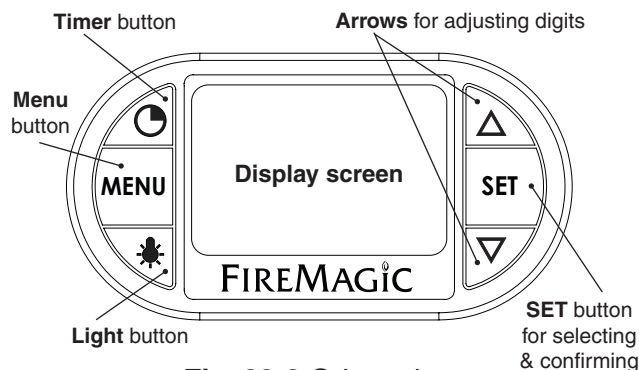

Fig. 29-2 Orientation
Read the following sections completely regarding thermometer operation. Refer to Fig. 29-2 for thermometer orientation and button locations.
1. Press the light button to turn both the interior oven lights and knob backlights ON (see Fig. 29-2). The interior oven lights will temporarily shut off when the hood is closed (except for Magic View models).